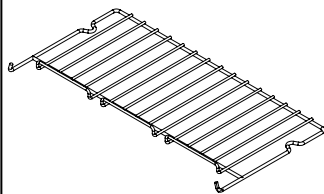

Fig. 2.15
- 1 pastry tray (**Fig. 2.15**)